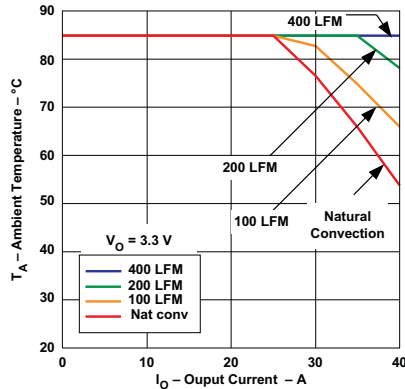
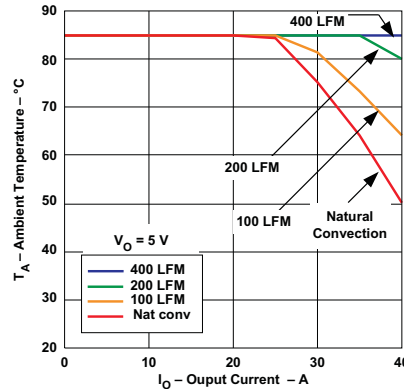

Figure 4.
Figure 5.
- (2) The temperature derating curves represent the conditions at which internal components are at or below the manufacturer's maximum operating temperatures. Derating limits apply to modules soldered directly to a 100 mm x 100 mm double-sided PCB with 2 oz. copper and the direction of airflow from pin 10 to pin 22. For surface mount packages (AS and AZ suffix), multiple vias must be utilized. Please refer to the mechanical specification for more information. Applies to Figure 4 and Figure 5.